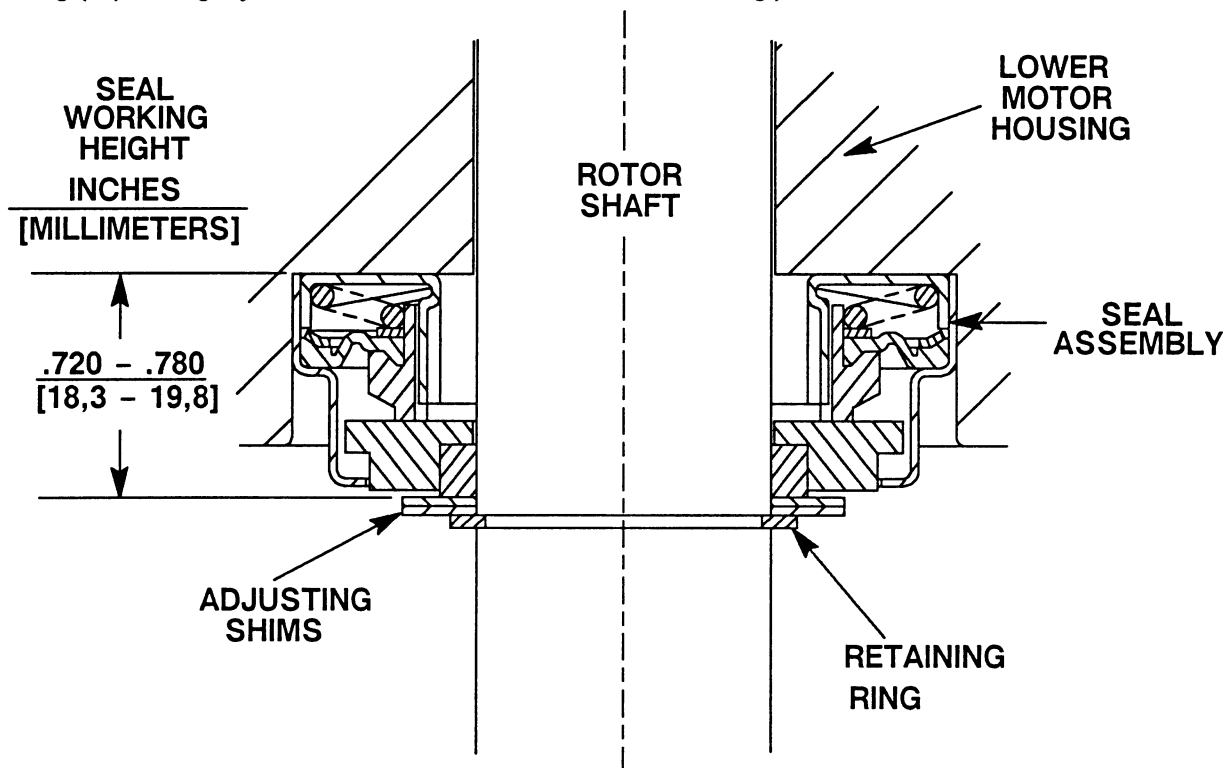

Figure 7. Upper Seal Assembly 25276-031
If all of the original motor parts are being reused, the same thickness of shims (34) as previously removed may be installed. However, if new motor parts are being installed that will affect parts “stackup”, or if the thickness of shims removed at disassembly is unknown, it will be necessary to measure the seal bore in the lower motor housing to determine the required shim thickness. This distance is measured from the bottom of the bore in the motor housing to the motor side of the retaining ring (35). Select the required combination of shims to obtain a seal working height of 0.720 to 0.780 inches as shown in Figure 7.